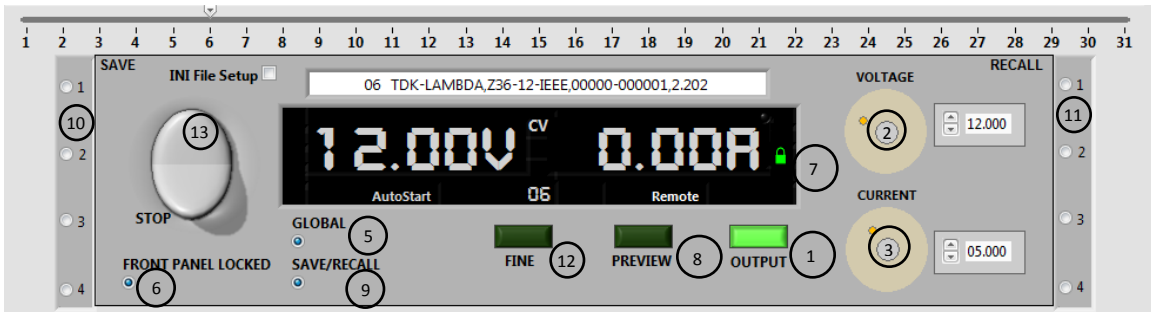
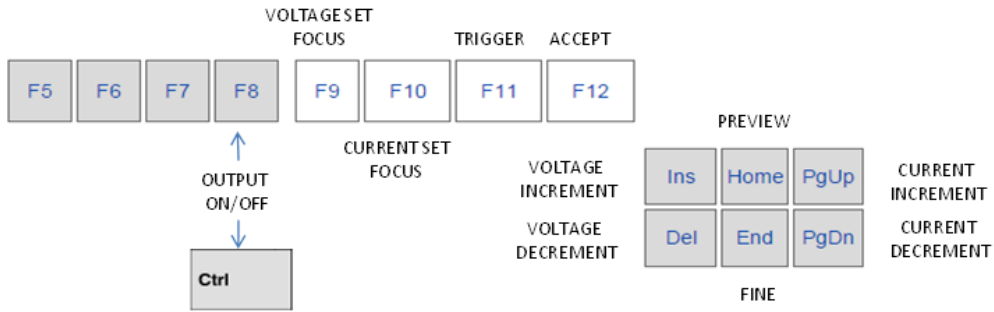

Figure 6 Virtual Front Panel
Figure 7 Keyboard key
1. The Virtual Front Panel (VFP) is an interface which shows the present power supply status on the display and allows changes to the output parameters by OUTPUT button (1), Voltage (2) and Current Encoders (3). Refer to Figure 6
2. To allow Global Commands for output, voltage, and current, select Global Enable button (5).
3. Select Front Panel Locked button (6) to prevent occasionally status change via interactive controls. Lock indicator (7) on display appears.
4. In PREVIEW (8) mode the voltage and current values are accepted when the center of the encoder is clicked.
5. Select SAVE/RECALL button (9) to allow SAVE (10) and RECALL (11) main parameters by selection properly button. For parameter list Refer to table 5-7 in Z+ User Manual
6. Keyboard Keys. Refer to Figure 7:
8. Press Stop (12) switch to stop application properly. Refer to Figure 6